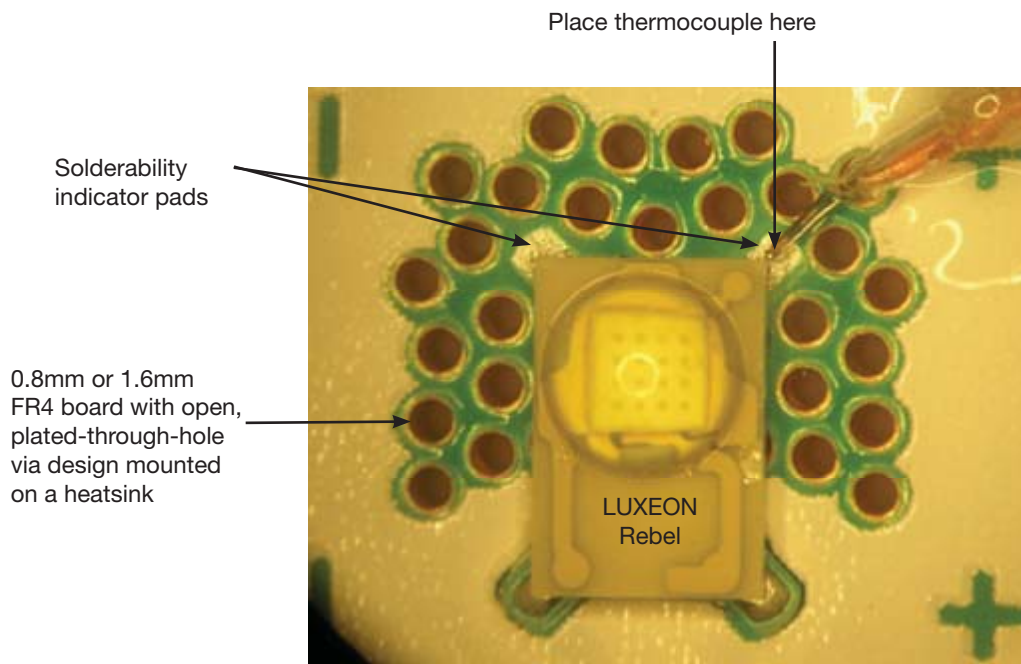

Figure 1. Solderability indicator pad and thermocouple placement.
The best way to define $R\theta_{J-Ref}$ for a LUXEON Rebel part mounted on 0.8mm or 1.6mm FR4 board with open, plated-through-hole via is to define the thermal resistance between the LED junction and the solderability indicator pad. Let us call this the thermal characterization parameter, Ψ_{J-S} . The solderability indicator pad provides the lowest thermal path to the LUXEON Rebel thermal pad. This thermal pad temperature is also known as the case temperature. We can define T_{Ref} as the solderability indicator pad temperature (T_S) and place a thermocouple on any one of the two pads as shown in Figure 1.
4. Place the thermocouple tip within the solderability indicator pad as shown in Figure 1.
2. Place the thermocouple tip within the solderability indicator pad as shown in Figure 1.